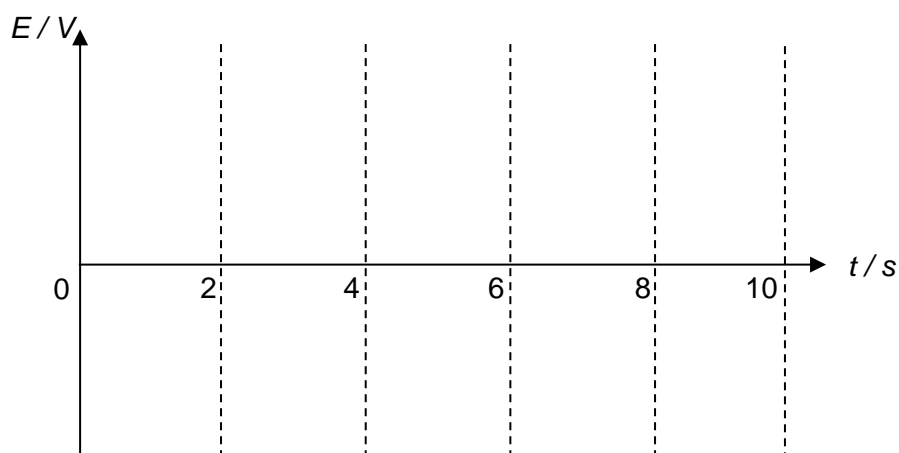

Fig. 5.2
- (ii) On Fig. 5.2, sketch a graph of how induced e.m.f.  $E$  in the coil varies with time  $t$  as the coil moves from initial position X to final position Y.